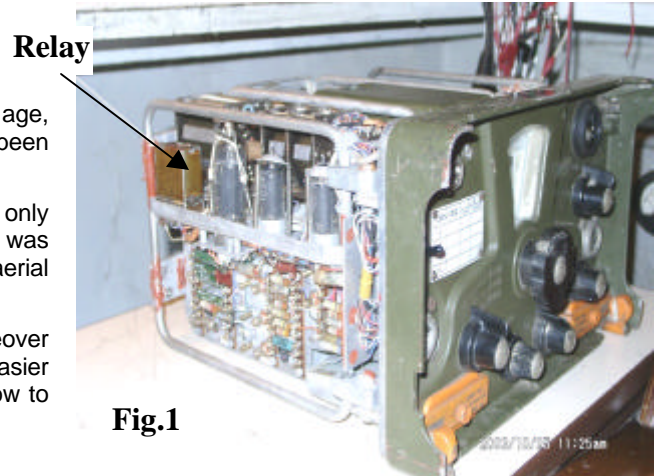

Fig.1
1. Locate the relay (Fig.1) and remove it from the set, making a note of the various connections as you remove them.